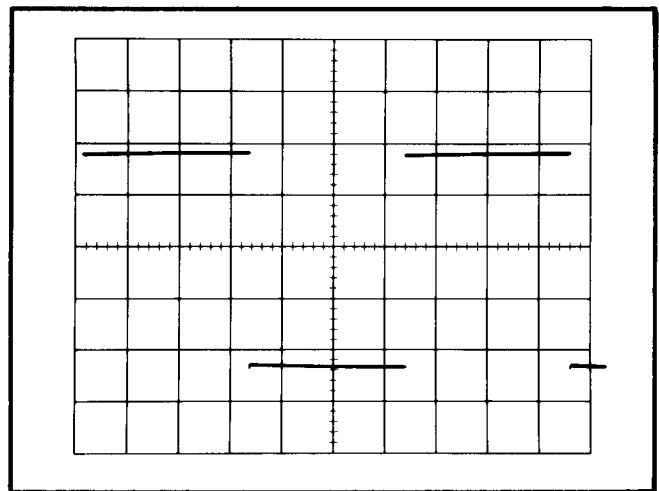

Fig. 7-17. Waveform obtained for each VOLTS/DIV switch setting when compensation adjustments are correctly made.
b. Check—The waveform presented at each CH 2 VOLTS/DIV switch setting listed in Table 7-1 for optimum square leading corner and flat top (see Fig. 7-17). The output signal amplitude of the square-wave signal generator will have to be adjusted for each VOLTS/DIV switch setting so as to maintain a 4 major division high display.
c. Adjust—Indicated components in Table 7-1 for each CH 2 VOLTS/DIV switch position so the waveform presented has an optimum square leading corner and a flat top. See Fig. 7-17. It will be necessary to readjust the square-wave signal generator after each VOLTS/DIV switch change to maintain 4 major divisions of display.